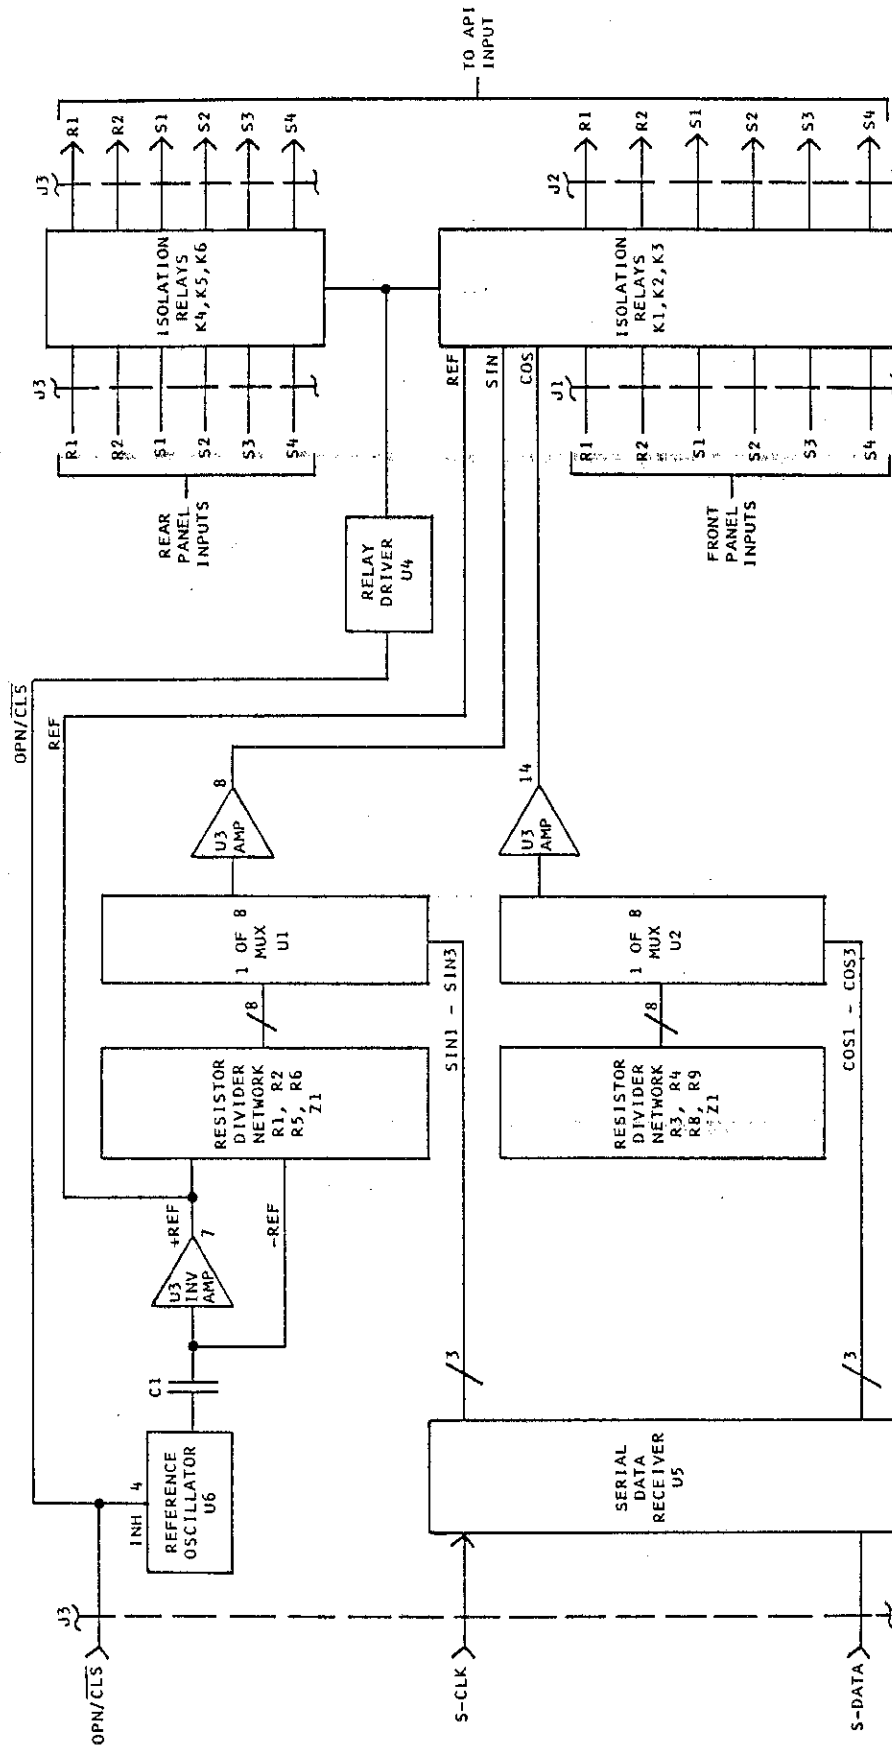

Figure 4-4. IEEE MATE/CIIIL Self-Test CCA, Block Diagram
2.2.4 Add paragraph 4-4 and figure 4-4 as follows:
Refer to figure 4-4 for the following block diagram discussion. The block diagram represents the circuitry necessary to perform internal self-test for API synchro-to-digital circuits as required by MATE/CIIL IST and CNF commands (see section 5 for MATE/CIIL command descriptions).